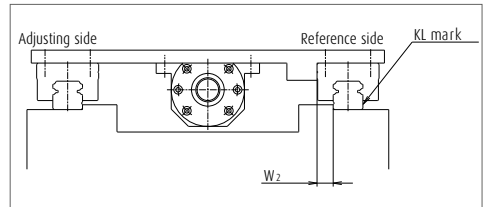

Fig. 2 Most common setting of the reference side rail
- When the datum surfaces of the reference side rail and slides are pressed to their mounting datum surfaces respectively, the variation of distance (mounting width W_2 or W_3) between the datum surfaces of the rails and that of the slides must be a minimum and therefore, it is specified as the standard. (**Figs. 2 and 3**)